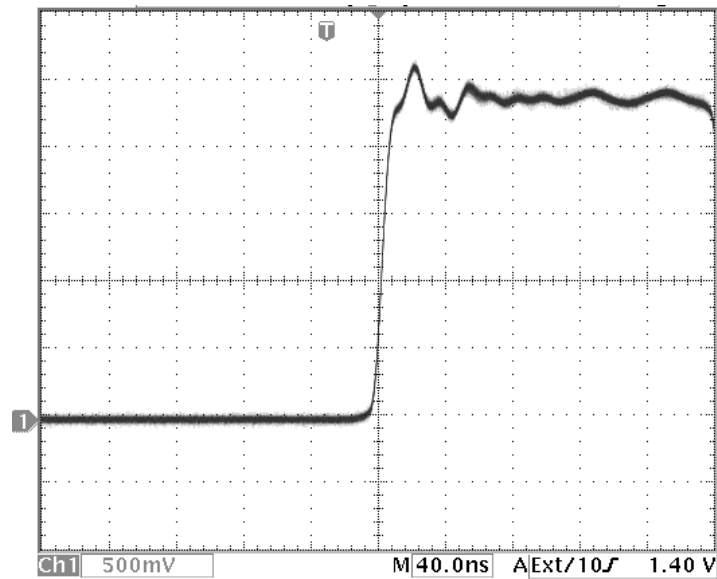

Figure 1 Rise Time
2. OR, connect the USB power cord to the probe (see Figure 1 for the location of the input jack on the probe) and a USB port on the oscilloscope or to the Power Adapter plugged into a mains circuit.